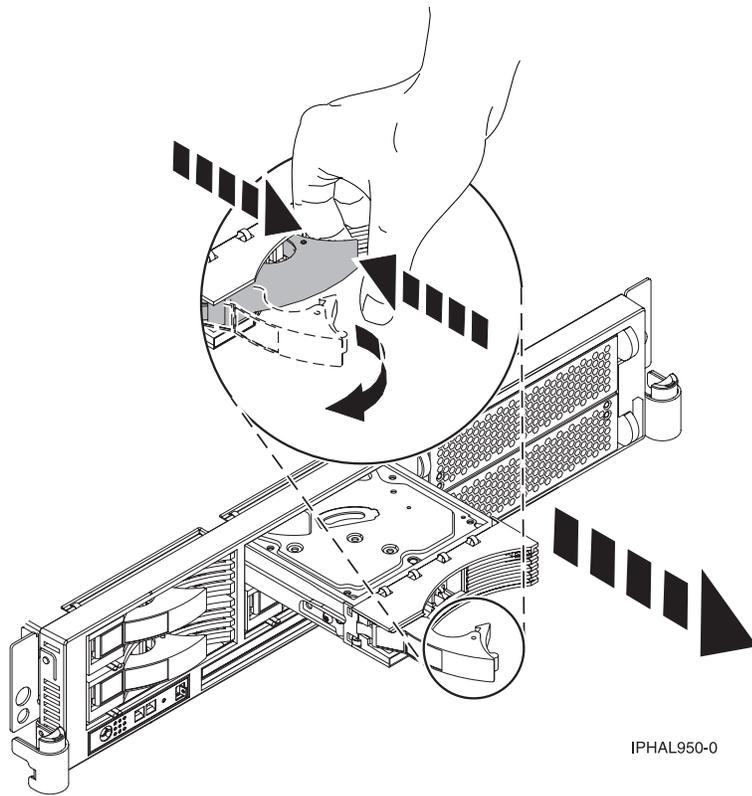

Figure 88. Removing a disk drive from a model 51x or 710
1. Unlock the disk drive handle by squeezing it and pulling it out toward you, as shown in Figure 88 on page 89 or Figure 89 on page 89.